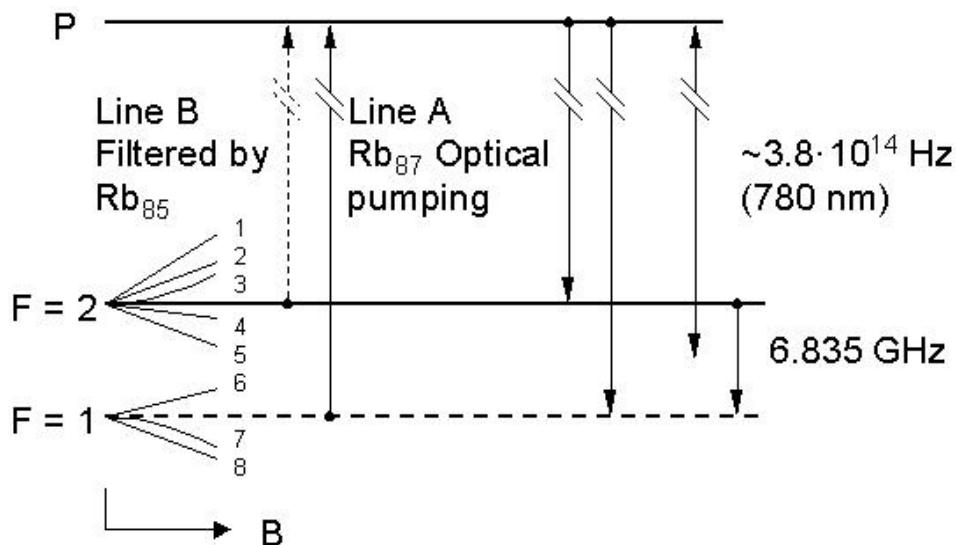

Fig. 2-1: Energy levels and transitions in Rb87 atoms during SRO-100 operation.
In order to detect the clock transition between these two levels, the atoms need to be manipulated in such a way that most of them occur in only one level. This is done by optical pumping via a higher lying state (P). Fig. 2-1 visualizes the atomic energy levels and transitions involved in the optical pumping process.